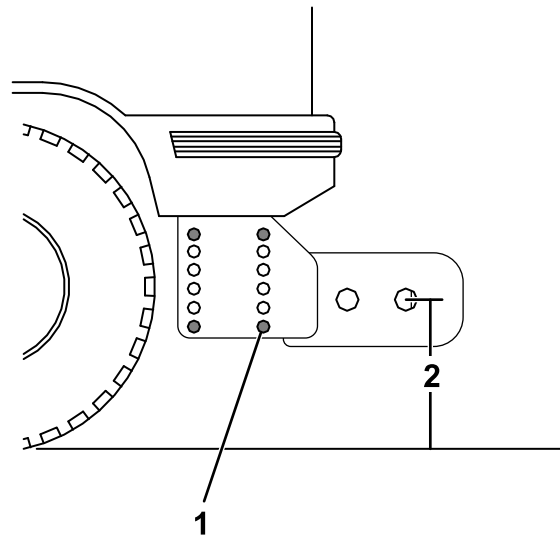

Figure 24
1. Measure the distance from the ground to the attachment pin holes on the undercarriage pushbeam (Figure 24). The distance should be 48.2 cm (19 inches).
2. If the pushbeam is not at 48.2 cm (19 inches), remove the fasteners securing the pushbeam to the undercarriage (Figure 24).